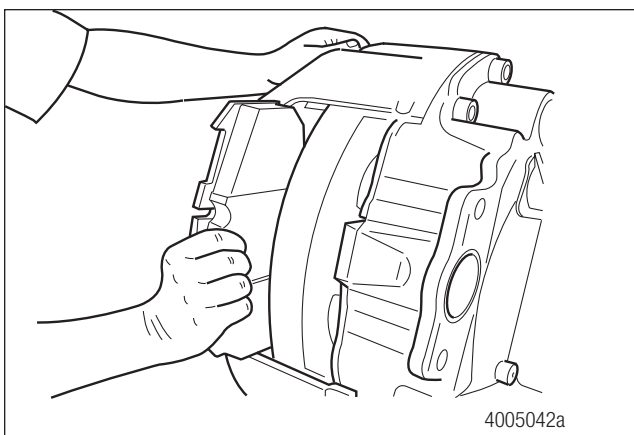

Figure 6.9 Remove the outboard brake pad.
- Remove the outboard brake pad from the caliper assembly and mark the brake pad "outboard". Figure 6.9.